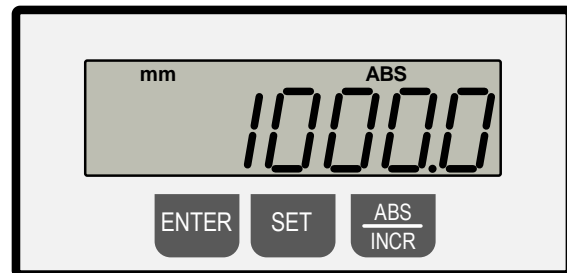

Figure 71: Stored reference dimension (example)
- Keep the buttons **ENTER + SET** pressed at the same time → The reference dimension stored in the unit appears. In our example it is the value “**1000.0 mm**” (see ⇨ Figure 71).
- The setting is complete (see ⇨ Figure 71).
→ The new calibration value “1150.0 mm” appears in the normal mode (see ⇨ Figure 71).